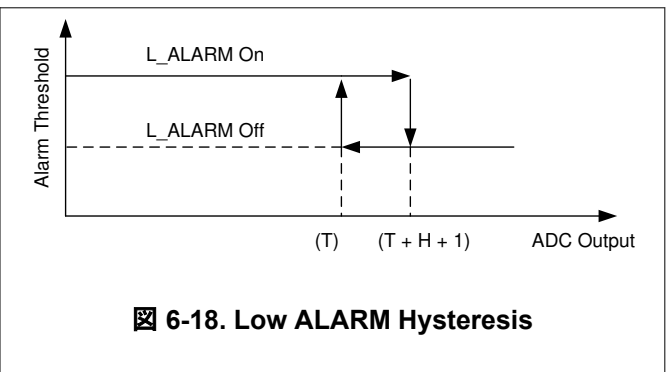

図 6-18. Low ALARM Hysteresis
Similarly, the input low alarm is triggered when the digital output falls below the low alarm lower limit [low alarm threshold (T)]. The alarm resets when the digital output is greater than or equal to the low alarm higher limit [low alarm (T) + H + 1]. 図 6-18 shows this function.